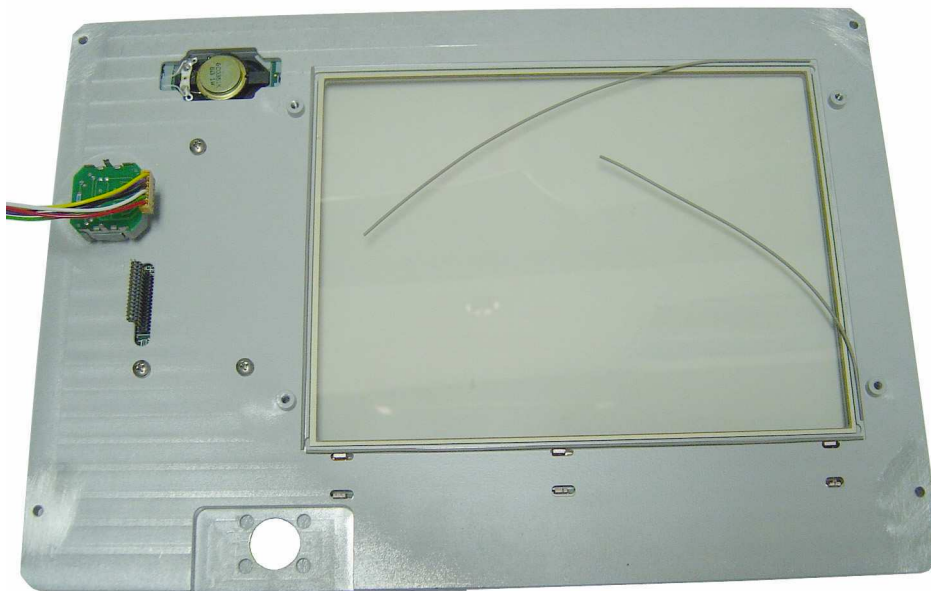

Figure 4-27. Front Panel Gaskets for LCD Display
7. When installing a new LCD display, ensure that the rubber gasket strips (as shown in Figure 4-27) are properly aligned in the front panel gasket channels (grooves) that surround the plastic protective cover for the LCD.